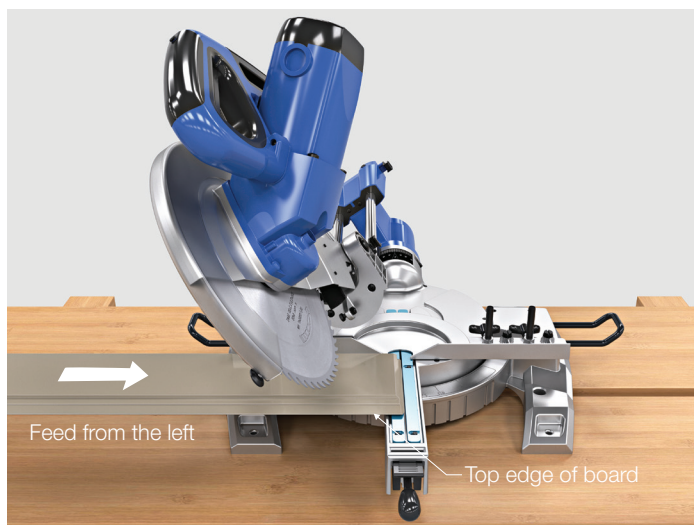

Figure 7. Left-hand miter = Feed board face down with top edge away from fence.
- Feed from the left. Place the board face down with top edge away from saw fence (Figure 7).